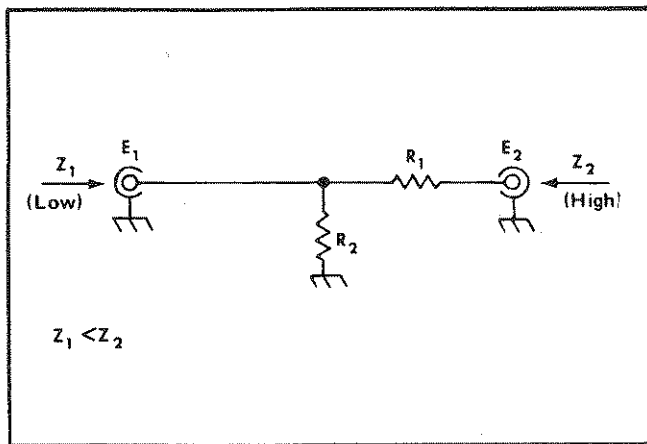

Fig. 1-1. Impedance matching network that provides minimum attenuation.
A simple resistive impedance-matching network, that provides minimum attenuation, is illustrated in Fig. 1-1. To match impedance with the illustrated network, the following conditions must exist:
**Attenuation Ratios.** Though the network in Fig. 1-1 provides minimum attenuation for a purely resistive impedance-matching device, the attenuation as seen from one end does not equal that seen from the other end. A signal ( $E_1$ ) applied from the lower impedance source encounters a voltage attenuation ( $A_1$ ) which is greater than 1 and less than 2, as follows: